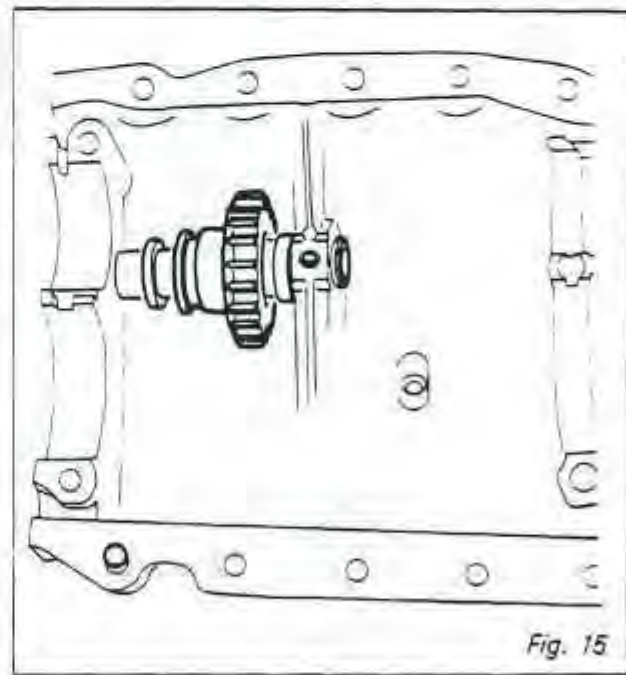

Fig. 15
14. Remove the reverse gear shaft, gear, and friction washers from the case. (Fig. 15)